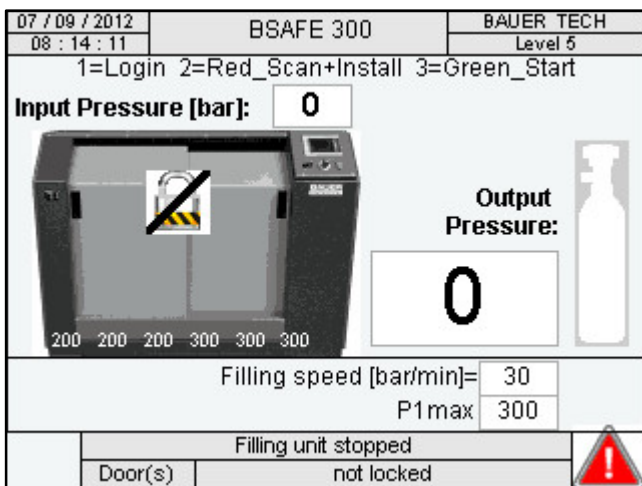

Fig. 5 Main page: filling not allowed (1/2)
- Doors closed and unlocked – icon flashing (Fig. 5)